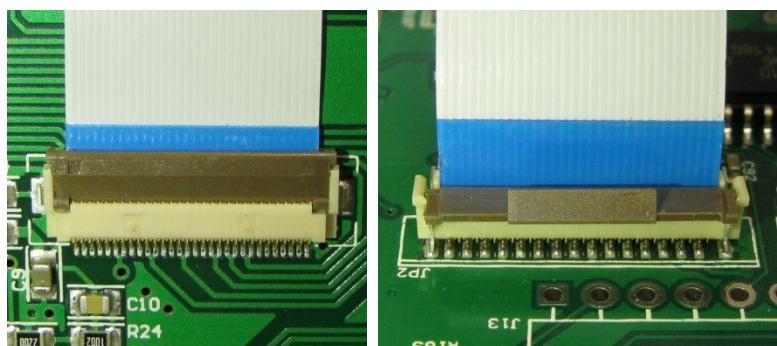

Fig. 24 Correct ribbon cable connection for horizontal and vertical slots
- correct ribbon cable connection is shown in Fig. 24.